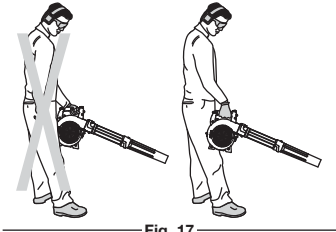

Fig. 17
WARNING: After starting the unit, always stand on the left side of the unit to operate it as shown in figure 17 to keep from blocking the air intake.
- The unit is in the right hand and on the right side of the body. Do not block the air intake which will affect the unit's performance (Fig. 17).
Hold the blower with the right hand. Do not stand on the right side of the blower when operating the unit (Fig. 17). If you do, you will be blocking the air intake and this will affect the unit's performance. Instead, be sure to stand on the left side of the unit to maximize the unit's efficiency (Fig. 17).